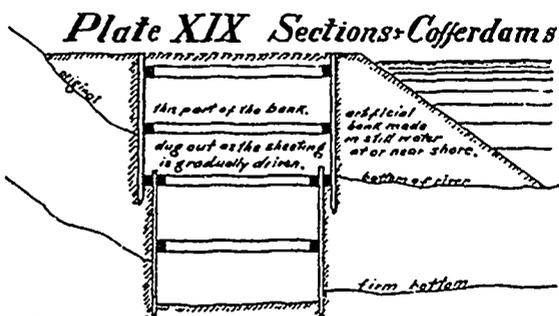
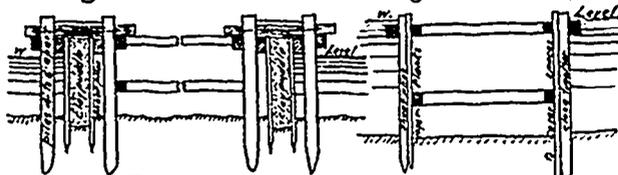

Fig. 67. Artificial bank and single sheet piling.
Fig. 68. Cofferdams for shallow water.
*Deep Foundations on Land.*—Where foundations require to be carried down for any considerable depth, it is more economical to timber and sink vertically than to put earth slopes on the foundation pit, such timber will, in general, consist of vertical hand-driven sheet piles and horizontal rings of timbers and braces to sustain them at five or six foot intervals, as shown Fig. 67, Plate XIX.,
and in planning such work it is well to remember: (1) To allow for extra room more than is apparently required, in order to give freedom of movement, extra timbers, etc.; (2) To be sure to find out how deep it is to good bottom before digging is begun, in order to see whether piling might not be less expensive, and chiefly so as to be able to say definitely how many rings of timber there will be, and how much extra room will, therefore, be needed to step in all around about 15 inches every 10 or 12 feet in depth; this is a very important consideration. See Fig 67.
*Fixed Cofferdams.*—These are used where there is shallow water, at most only a moderate current, and where the bottom is of such a nature as to admit of sheet piles being driven in and the foundation suitably excavated to a firm foundation bed. This may be accomplished in various ways. Where the structure is near shore and waste excavation is available, it will pay to make an embankment above water level, and carry down hand-driven sheet piles kept in position by rings of timber, the excavation being always kept about level with the bottom of the sheet piles. This method is illustrated in Fig. 67. If, however, the structure is not thus situated, the sheet piles are either driven in a double layer, as in Fig. 68, or a single row of Wakefield sheet piling is used (this is an artificially made sheet pile composed of three planks spiked together to form a tongue and groove). If any of these methods are employed, a centrifugal pump will be kept busy keeping down the water while the foundation courses are being laid, but in case such pumping power is not advisable or available a more expensive form of cofferdam can be used, as in Fig. 68. Rows of guide piles are driven at considerable distances apart, then walings are bolted on, and a double row of sheet piles is driven around the area to be unwatered, between which is rammed clay puddle, making a very watertight, but expensive, cofferdam. This is generally employed in extensive works where the area is to be unwatered for some length of time.